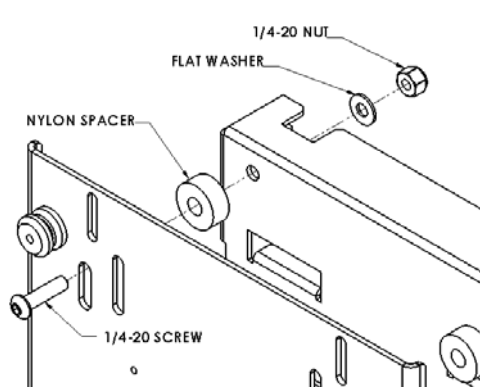
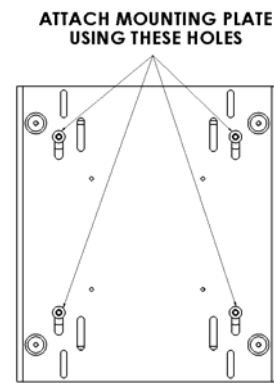

Figure 4
Figure 5
3. **Bracket Installation:** Attach bracket to back of display using the 1/4-20 button head screws, nylon spacers, flat washers and Nylock nuts (see Figure 4 & Figure 5). The vertical slots of bracket can be used for any height adjustment that may be needed.